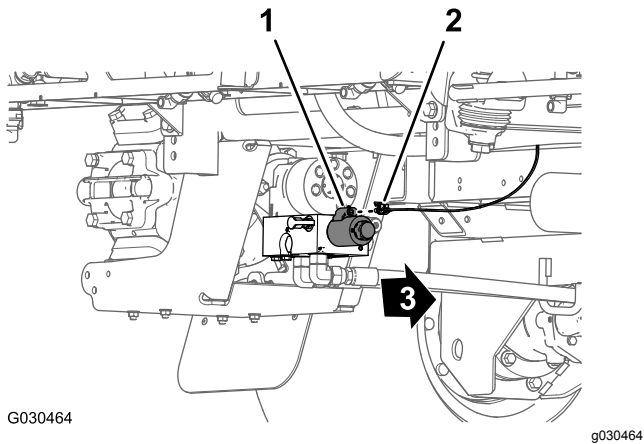

Figure 58
5. At the back of the machine (inboard of the sprayer pump), disconnect the 2-socket connector of the rear, main harness from the 2-pin connector of the relay for the pump (Figure 58).